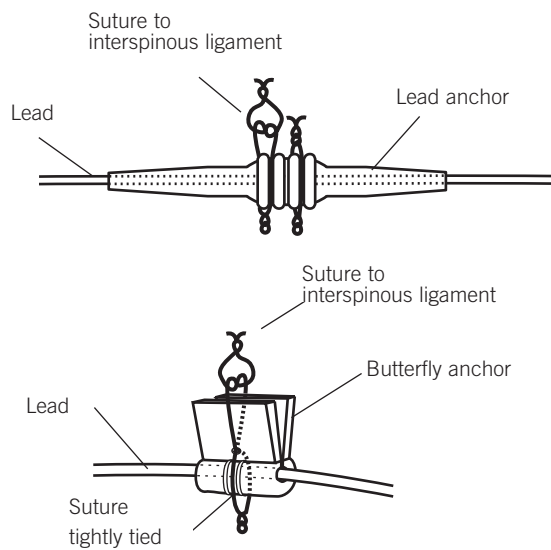

FIGURE 11
3. Secure the lead within the lead anchor using 2-0 nonabsorbable suture (see Figure 11.)